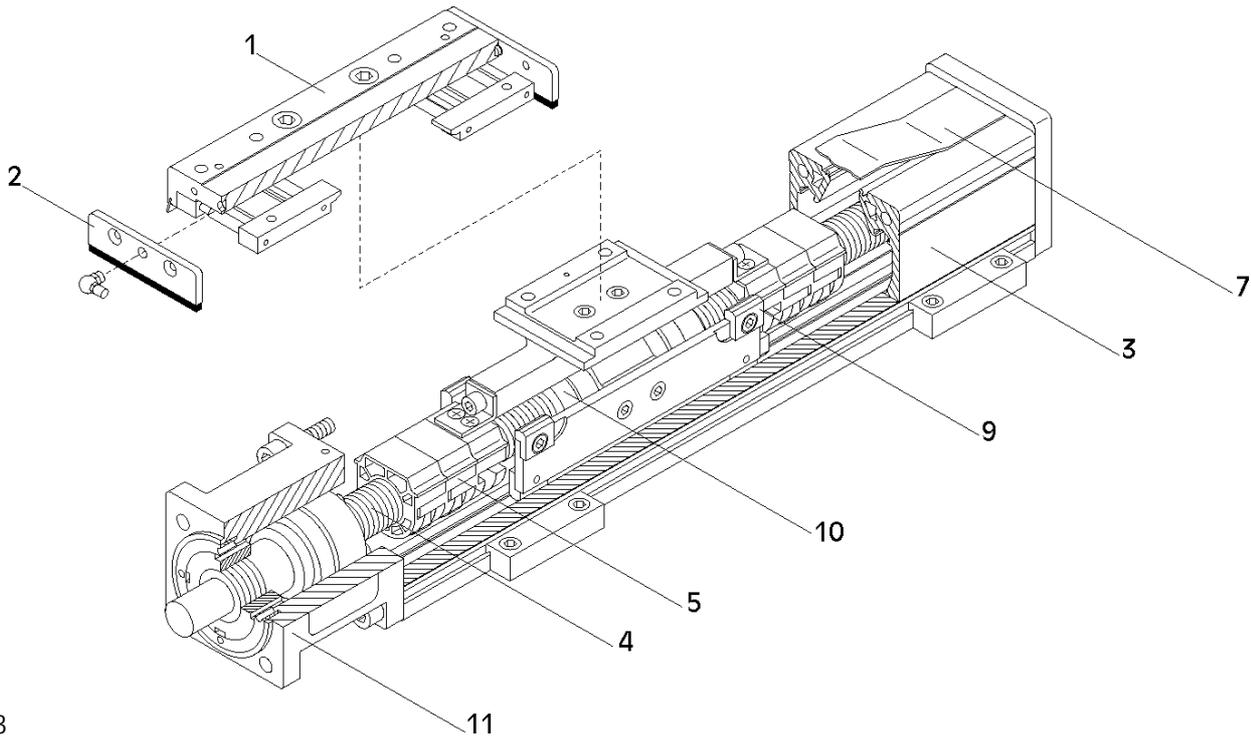

Fig. 3
WIESEL linear drive units consist of the following functional assemblies (Fig. 1 - Fig. 3):
**Fig. 3:** ON the DYNALine® series, the sliding bars (9) serve only for the commissioning of the linear axis, when no external forces or moments can occur. This series is designed solely for use as a feeder axis – all external forces and moments must be taken up by external guides, without which it is not possible to operate the DYNALine® series.